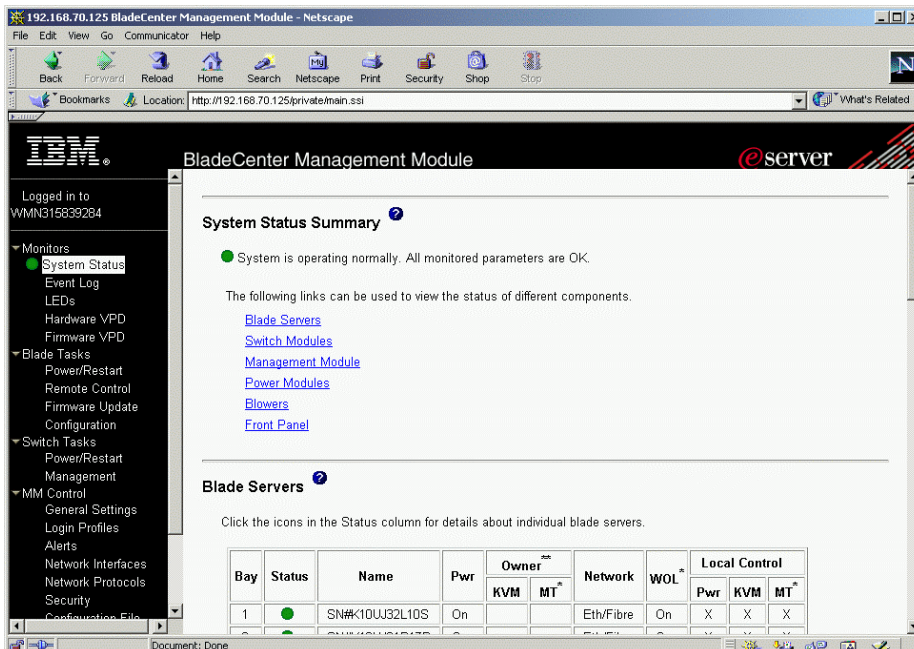

Figure 5. System Status Summary
4. The System Status Summary screen is displayed, as shown in Figure 5. Click **Management** on the left hand panel, under **Switch Tasks**.